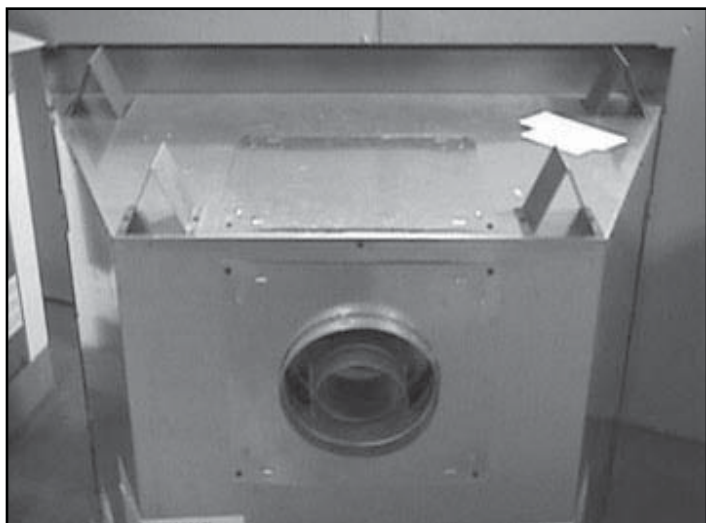

Figure 7.17 Completed Conversion
- The appliance should look like the one shown in Figure 7.17 after it has been converted to a rear vented appliance.